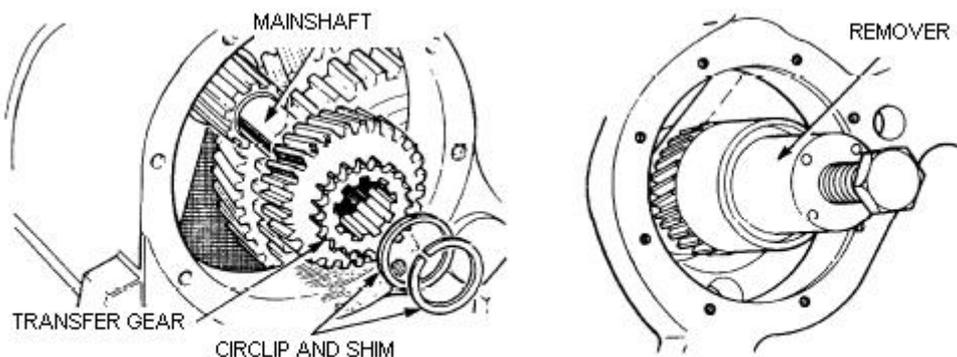

Figure 158 Removing the Transfer Gear
- y. Remove the circlip and shim retaining the transfer gear to the mainshaft and discard the circlip (Figure 158).
- z. Using the remover (Table 3, Serial 41) withdraw the transfer gear from the mainshaft. Ensure the remover is correctly located on the transfer gear before applying force to the transfer gear (Figure 158).